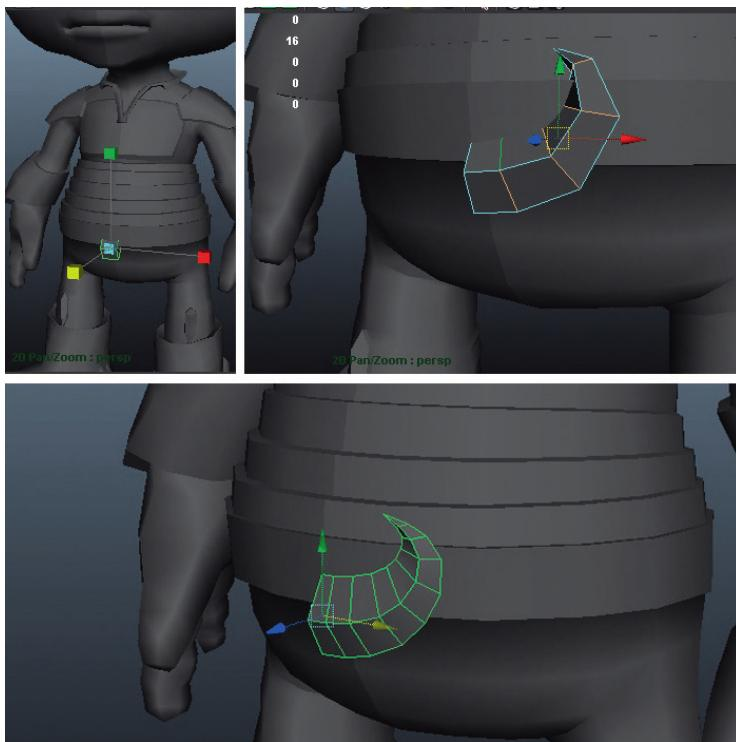

FIG 4.86 Creating the shape of the belt buckle. Notice this is a separate shape.
Step 105: Create the basic shape of the buckle. This is done starting out with a cube rotated 45 degrees in Z and then extruding the face on the outside several times to get the correct shape (Fig. 4.86).